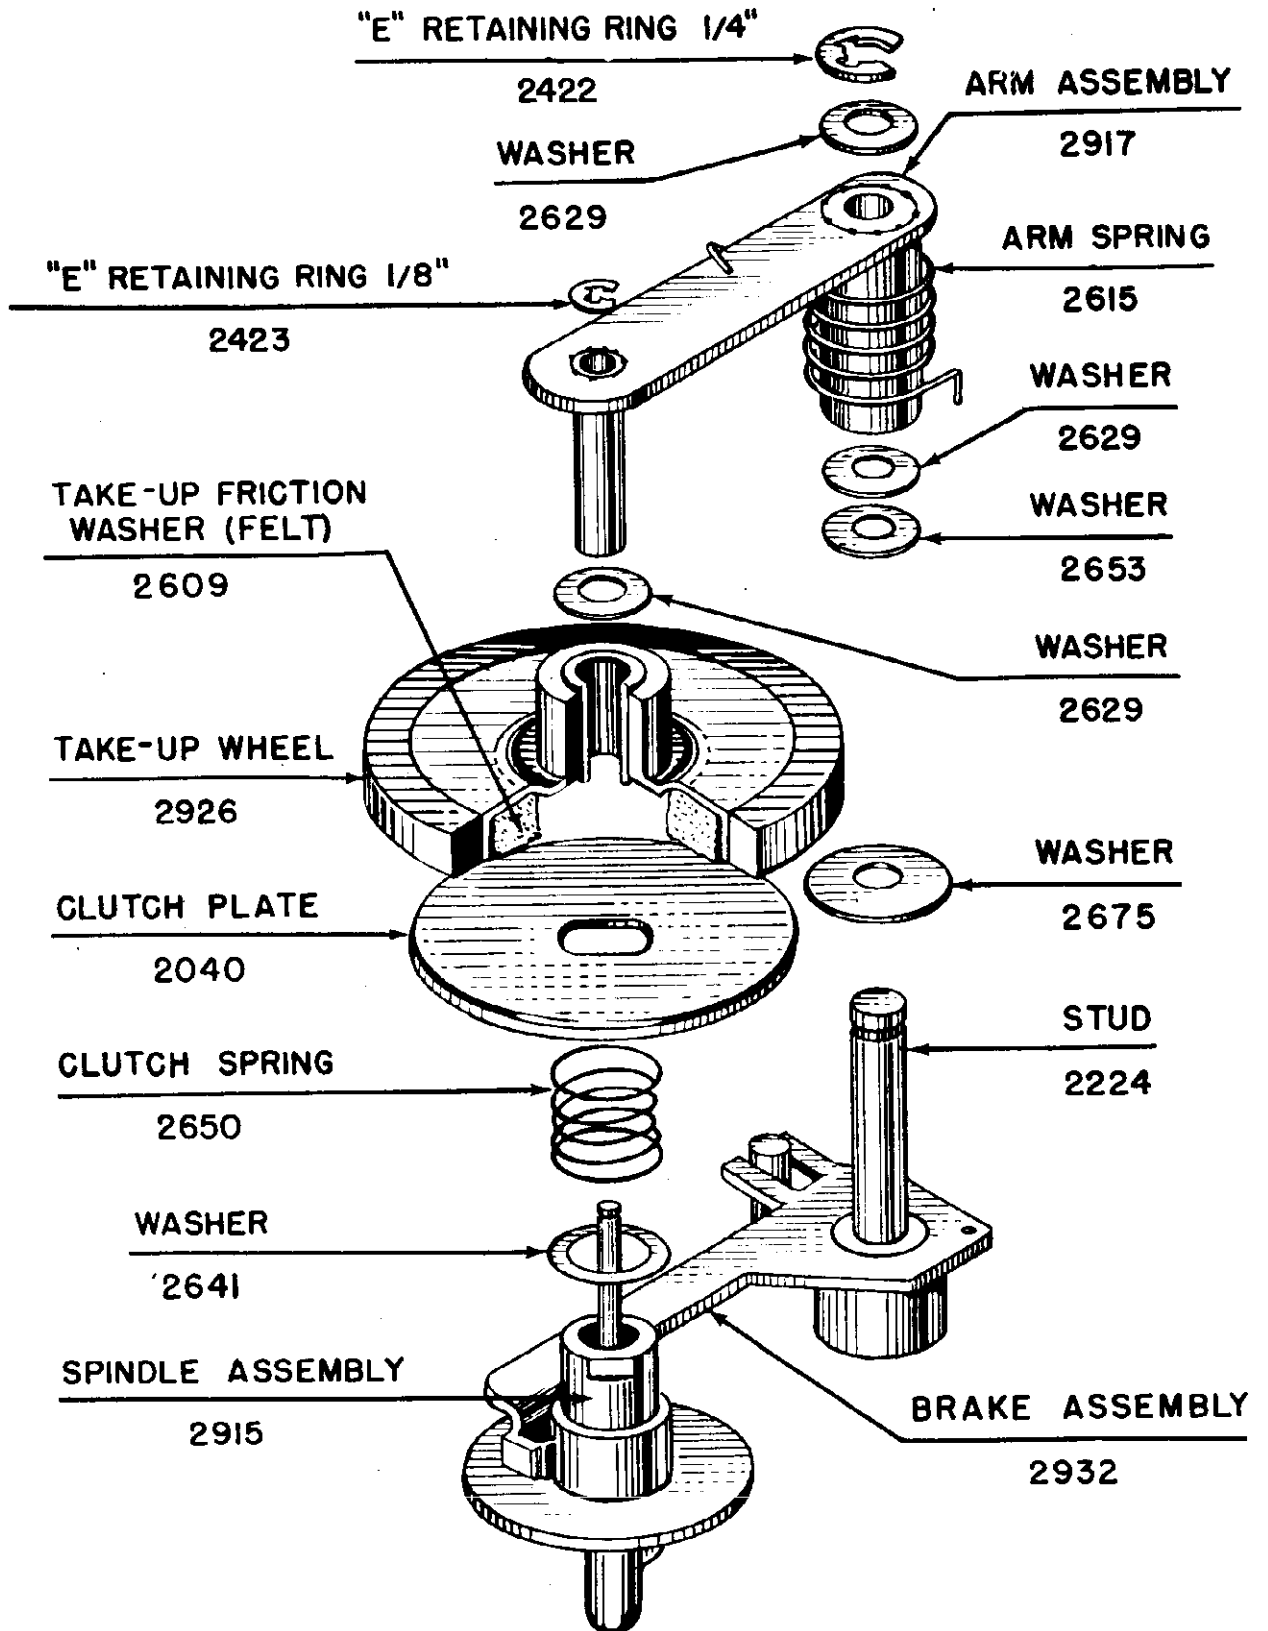

FIG. 8 - Exploded View, Takeup Spindle Assembly.
(SEE FIG. 8)
(1) Disassembly: (See Fig. 8.) Disconnect ends of arm spring (#2615). Remove "E" retaining rings (#2422 and #2423). Lift assemblies from stud (#2224) and spindle assembly (#2915).
(2) Inspection: Inspect take-up wheel (#2926) rubber surface, felt pad, and clutch plate (#2040) for wear. Check clutch spring (#2650) for correct free length (21/32 inch to 23/32 inch).
(3) Repair: Replace worn parts. Clean takeup pulley and clutch plate with carbon tetrachloride.
(4) Reassembly: Reassemble parts in specified relation (see Fig. 8). Be sure brake assembly (#2932) moves freely about stud (#2224). Clip arm spring (#2615) to arm assembly (#2917) and brake assembly (#2932).